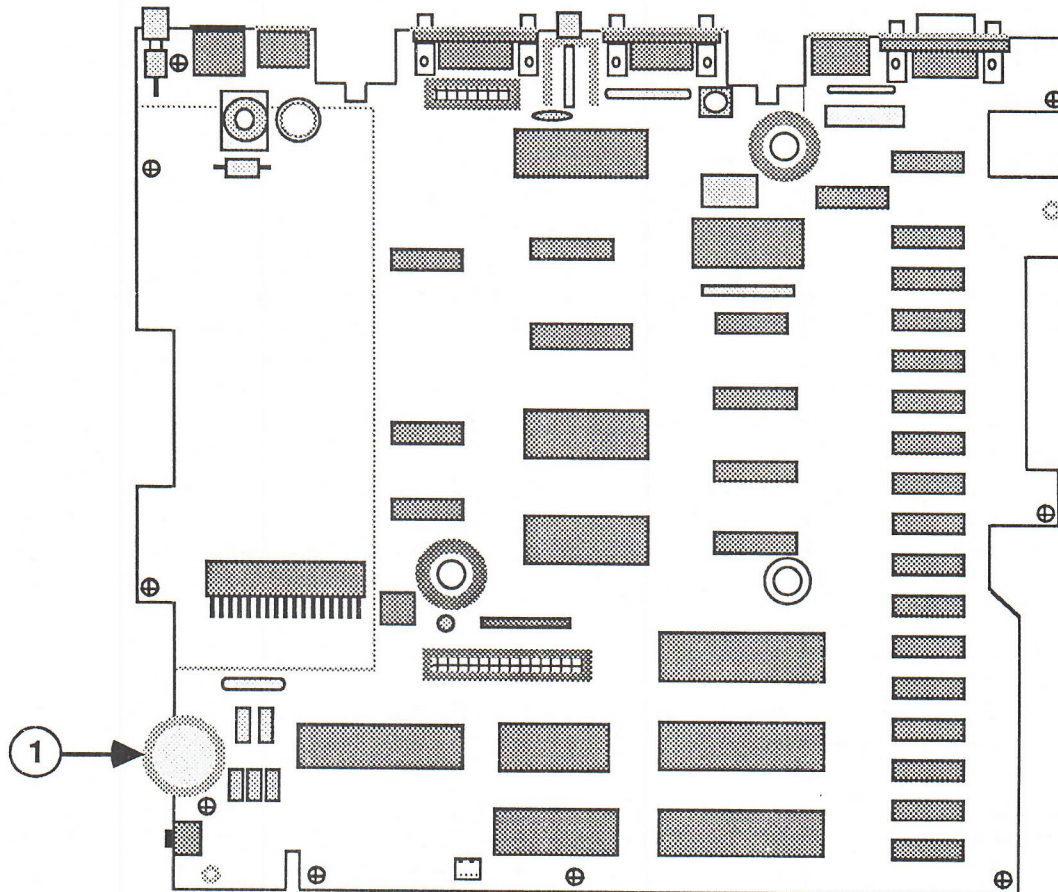

FIGURE 12
2. Locate the volume control knob (Figure 12, #1) on the logic board. Turn the logic board over and carefully desolder the three volume control leads.